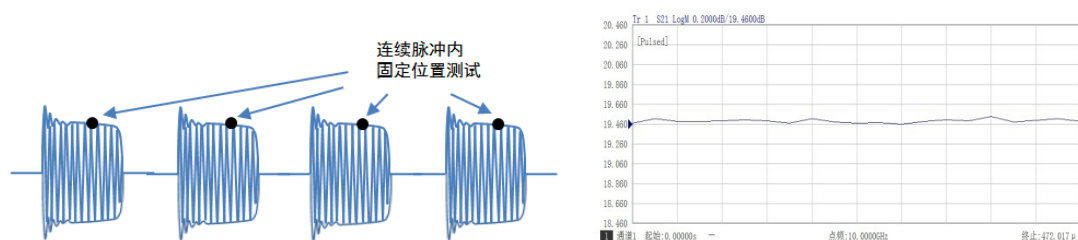

Figure 4.5 Pulse point test diagram
(2) Pulse point test: It is used to characterize how the characteristics of a string of pulses change with time after passing through the device under test. This test needs to be performed at point frequency. The result of the test is a change in amplitude or phase over time. The test points are fixed in relation to a pulse trigger signal in time, and the points on the entire test curve trace are obtained on a successive pulse group, without any missed pulses, as shown in Figure 4.5.